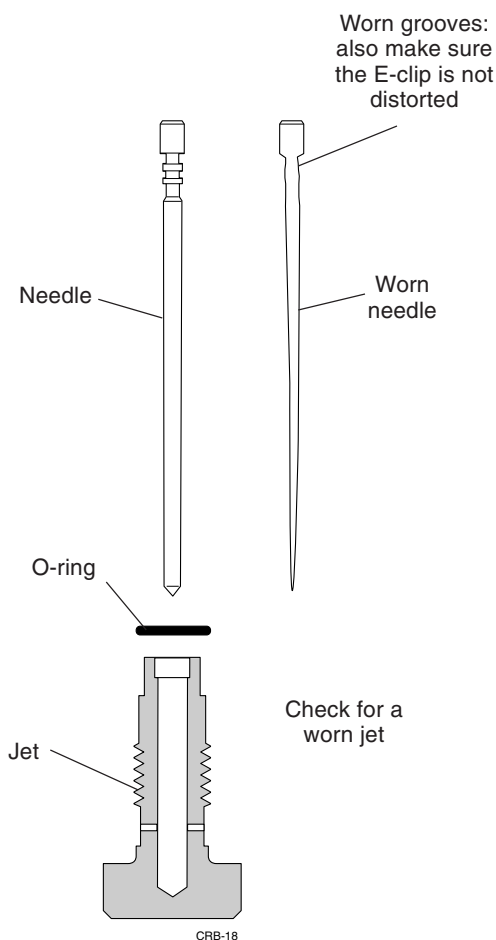

Figure 3.13 Jet and needle (T-25 shown).
- Examine the jet needle, and be especially alert for any indication of wear at the needle taper and also at the grooves for the needle retaining clip (see Figure 3.13).